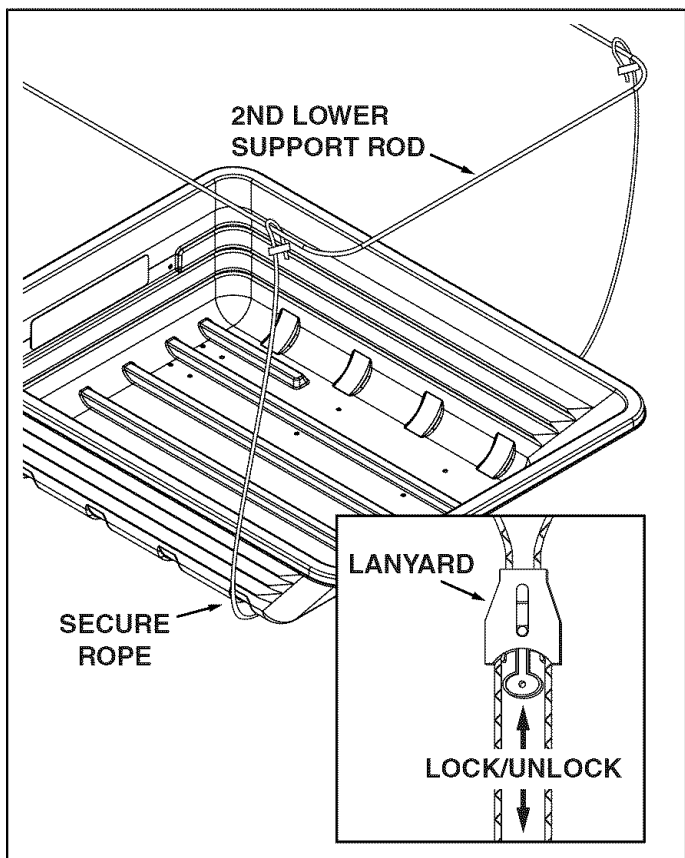

FIGURE 22
14. Secure rope around bottom of cart. Use the lanyard to tighten rope until it firmly secures the cart cover to the cart. See figure 22.
15. Ensure lanyard is locked to keep rope in place. See figure 22.